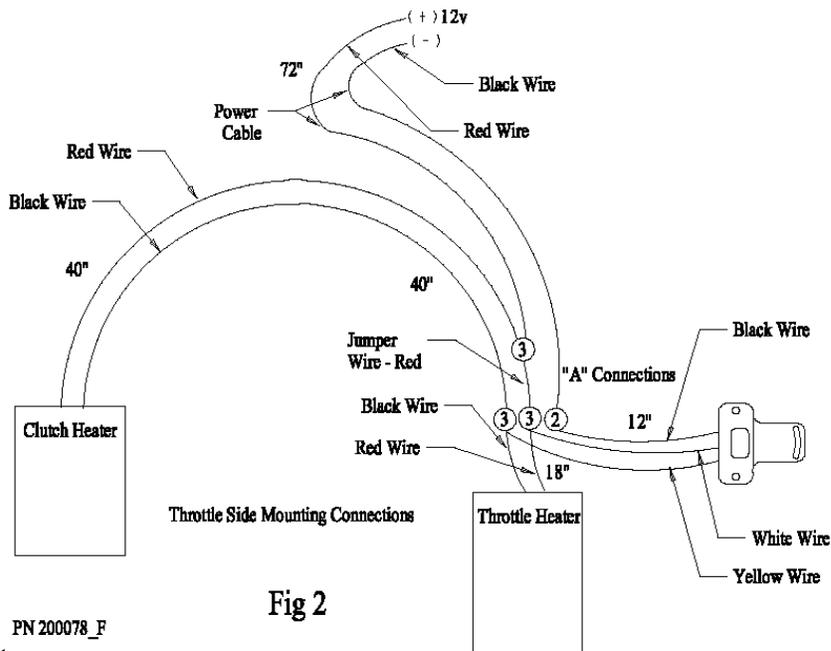

Fig 2
5. At the area inside the right or throttle side handlebar, complete the electrical connections from the power cable to the Controller, the clutch heater, and the throttle heater as shown on FIG 2 (below). There is a short piece of red wire in the kit that is a jumper for the 12V connection. The connectors with the red cap can be used or the wires can be soldered together. If soldering the wires, the heat shrink tubing from the kit, the smaller diameter tubing, should be cut into pieces and slid over the wires, then the wires twisted together, soldered, and followed by shrinking the tubing for a good insulation. There is not a lot of room inside of the handlebar casting, so if the connectors are too big the wires should be soldered. If the connectors are used, follow the procedure below.